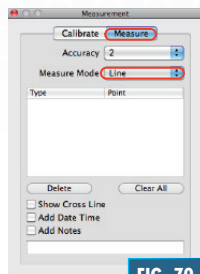

FIG. 79
2. Click the "Measure" button. Change the measure mode to "Triangle." (Fig. 79)